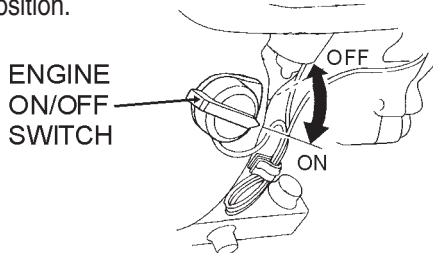

Figure 31. Engine ON/Off Switch (Off Position)
3. Turn the console **engine ON/OFF switch** (Figure 31) to the **OFF** position.
1. Turn the console **engine ON/OFF switch** (Figure 31) to the **OFF** position.
3. Set the engine **ON/OFF** switch to the **OFF** position (Figure 31, 34).